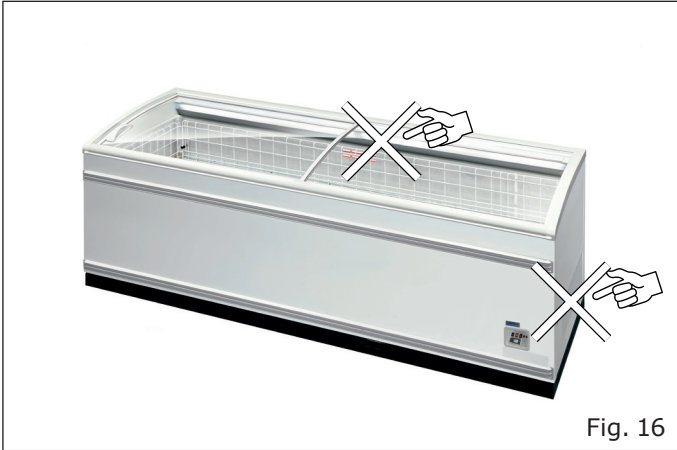

Fig. 16
- The goods do not obstruct the correct flow of refrigerated air ("Fig. 16").